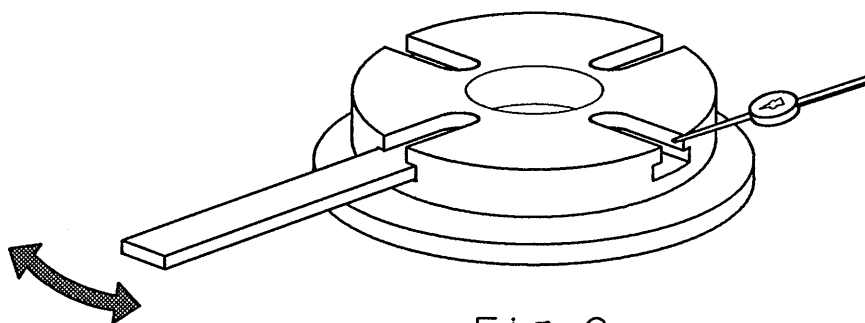

Fig 2
- 3) Perform the above measurement at 8 equipartition of outer periphery by turning the table and compare them with the above adequate values. (See Fig.2.)